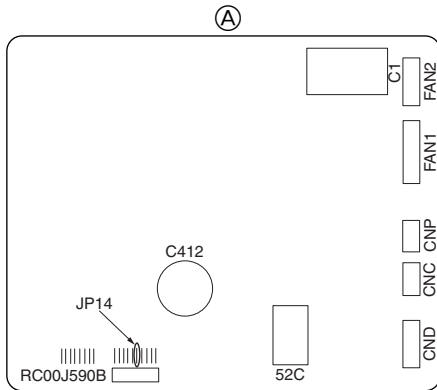

Fig. 10-3
10.5. Indoor temperature position change function (Fig. 10-3)